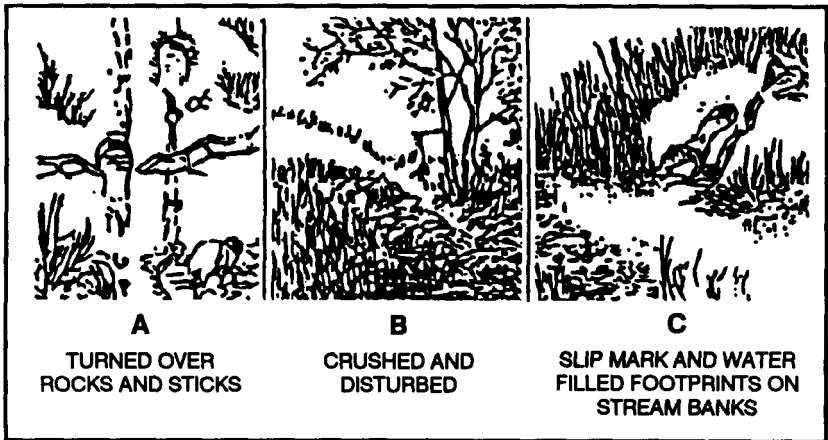

Figure 8-4. Other displacements.
c. **Recognizing Other Signs of Displacement** Foliage, moss, vines, sticks, or rocks that are scuffed or snagged from their original position form valuable indicators. Vines may be dragged, dew droplets displaced, or stones and sticks overturned (A, Figure 8-4) to show a different color underneath. Grass or other vegetation may be bent or broken in the direction of movement (B, Figure 8-4).
(1) The sniper inspects all areas for bits of clothing, threads, or dirt from footwear that can be torn or can fall and be left on thorns, snags, or the ground.
(2) Flushed from their natural habitat, wild animals and birds are another example of displacement. Cries of birds excited by unnatural movement is an indicator; moving tops of tall grass or brush on a windless day indicates that someone is moving the vegetation.
(3) Changes in the normal life of insects and spiders may indicate that someone has recently passed. Valuable clues are disturbed bees, ant holes uncovered by someone moving over them, or tom spider webs. Spiders often spin webs across open areas, trails, or roads to trap flying insects. If the tracked person does not avoid these webs, he leaves an indicator to an observant sniper.
(4) If the person being followed tries to use a stream to cover his trail, the sniper can still follow successfully. Algae and other water plants can be displaced by lost footing or by careless walking. Rocks can be displaced from their original position or overturned to indicate a lighter or darker color on the opposite side. The person entering or exiting a stream creates slide marks or footprints, or scuffs the bark on roots or sticks (C, Figure 8-4). Normally, a person or animal seeks the path of least resistance; therefore, when searching the stream for an indication of departures, snipers will find signs in open areas along the banks.